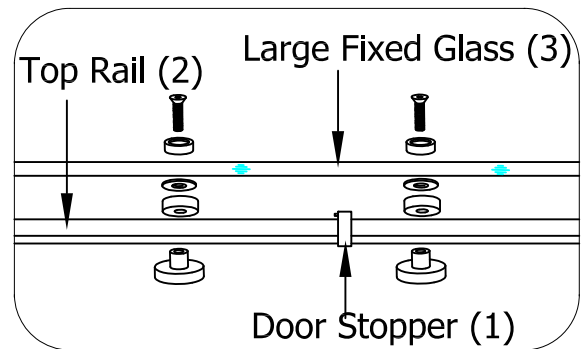

Fig. 9
- Loosen set screws on Rail End Assembly (5) (6) and remove wall mount (6) from Rail End (5). Next slide the Rail End (5) on to end of Top Rail (2) to be connected shower wall. Loosely tighten the Rail End (5) into place on Top Rail (2). See Fig.9 for details.